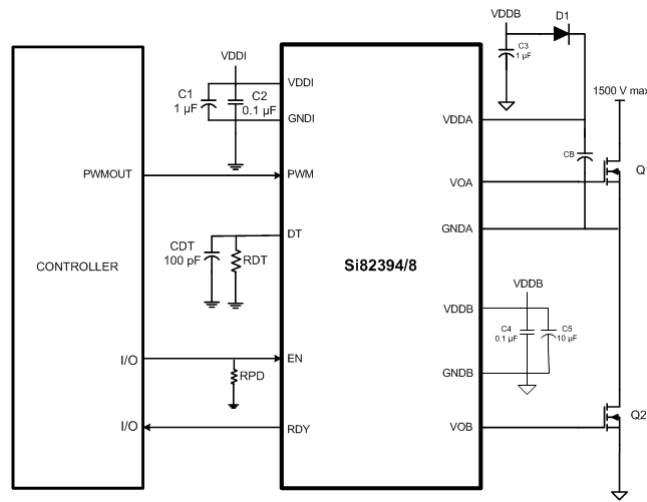

Figure 3.1. Si82394/8 Application Diagram
All high-side/low-side drivers (Si82394/8) include programmable dead time, which adds a user-programmable delay between transitions of VOA and VOB. When enabled, dead time is present on all transitions. The amount of dead time delay (DT) is programmed by a single resistor (RDT) connected from the DT input to ground per the equation below. Note that the dead time pin should be connected to GND1 through a resistor between the values of 6 k Ω and 100 k Ω and a filter capacitor of 100 pF in parallel as shown in Figure 3.1 Si82394/8 Application Diagram on page 18. It is highly recommended it not be tied to VDD1. See Figure 2.18 Dead Time Waveforms for High-Side/Low-Side Drivers on page 17 below.